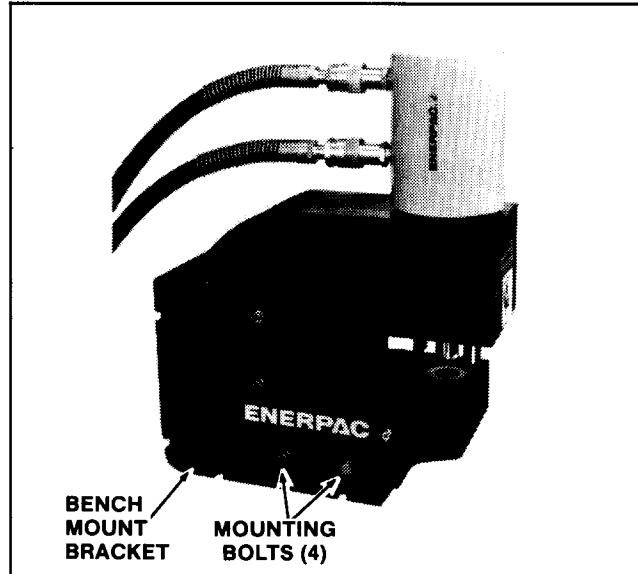

Figure 4
- c. Position the bench bracket under the punch base. Install four capscrews and lockwashers (two on each side) in the bracket holes, tighten to 20 ft. lb. (figure 4)